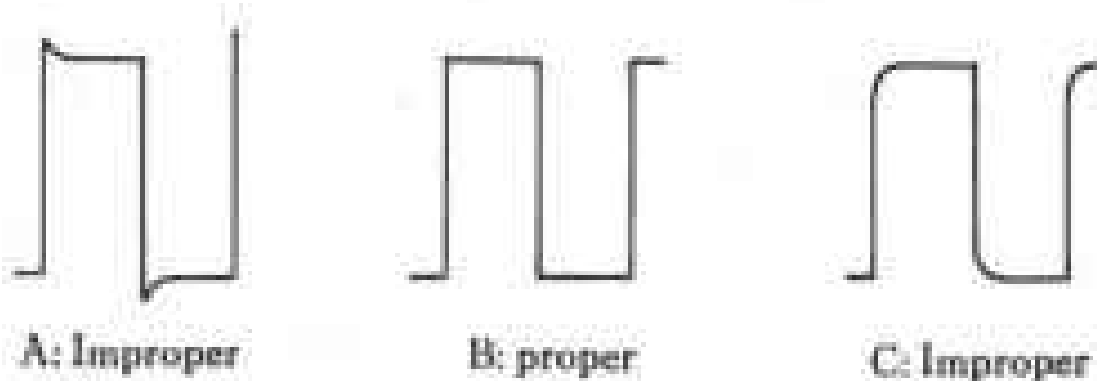

Fig. 5-3 Attenuator frequency compensation.
4. The waveform display at VERT INPUT X10 and X100 should be as shown at "B" in Fig. 5-3, with perfect corners.